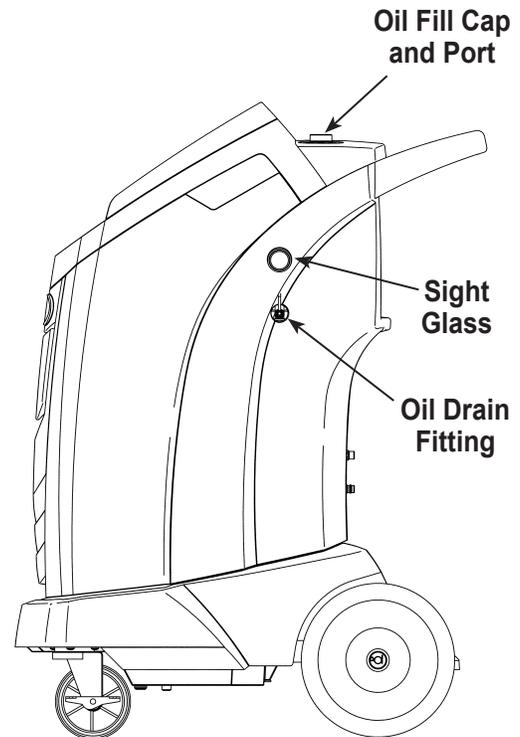

Figure 10
3. Slowly open the oil fill cap to verify there is no pressure in the machine. Then carefully remove the cap. See Figure 10.